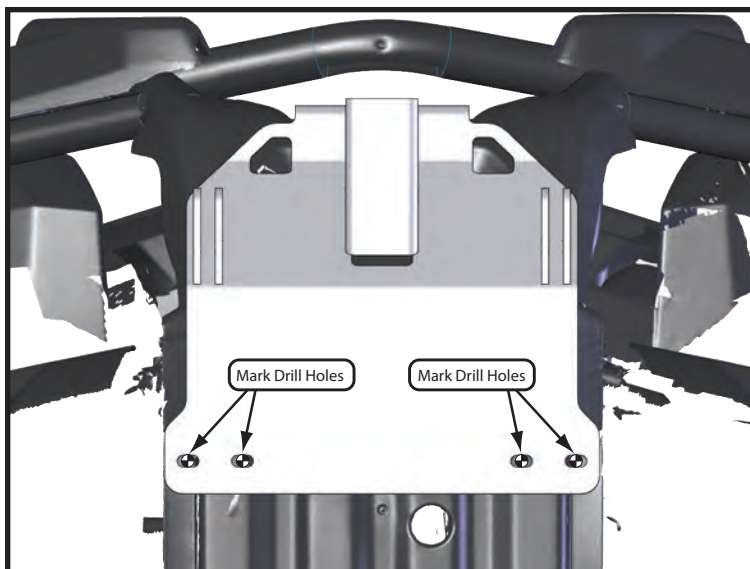

Figure 4: Mount Plate Install
3. Hold Skid Plate (2) in place lining up access hole with drain plug in front differential and secure rear of Skid Plate (2) using bolts (3.3) as shown in **Figure 4**.
3. Using the plow mount as a template mark and drill holes on the plastic skid plate as shown in **Figure 4**.
3. Using the Plow Mount as a template mark drill holes on the plastic skid plate as shown in Figure 4.
"Figure 4" Mount Plate Install
“Figure 4” Pin Attachment Brackets